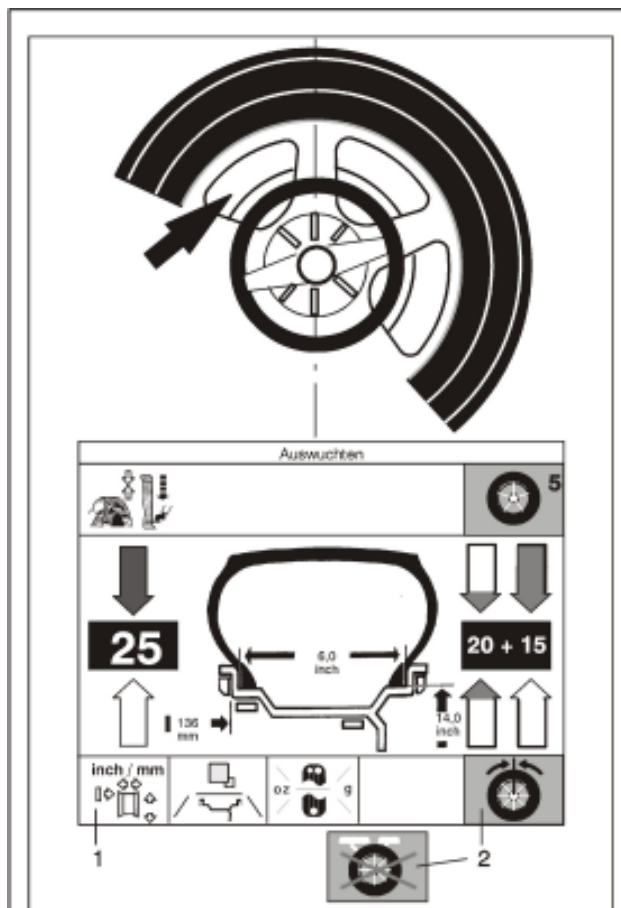

Fig. 61
As a result the measured data and the indexing arrows for two correction positions (hidden behind the spokes) of the right wheel side are displayed (**Fig. 61**).
- Rotate the wheel so that a spoke is centred relative to and above the main spindle (Fig. 61, arrow).
- In this position press the spoke position key (Fig.61, Item 2).
- If necessary, index the wheel to correction position as shown by the left pair of arrows of the right display (behind-the-spokes locations) (Fig. 61) and retain with the main spindle lock.
- To leave the behind-the-spokes placement mode, press menu key 1 (Item 1) in the screen as in Fig.61.
The unbalance reading is only subdivided on two fitting positions when the spoke position is stored (Fig. 61). This feature allows wheels without spokes to be balanced in the behind-the-spokes placement mode without returning to the conventional balancing mode.